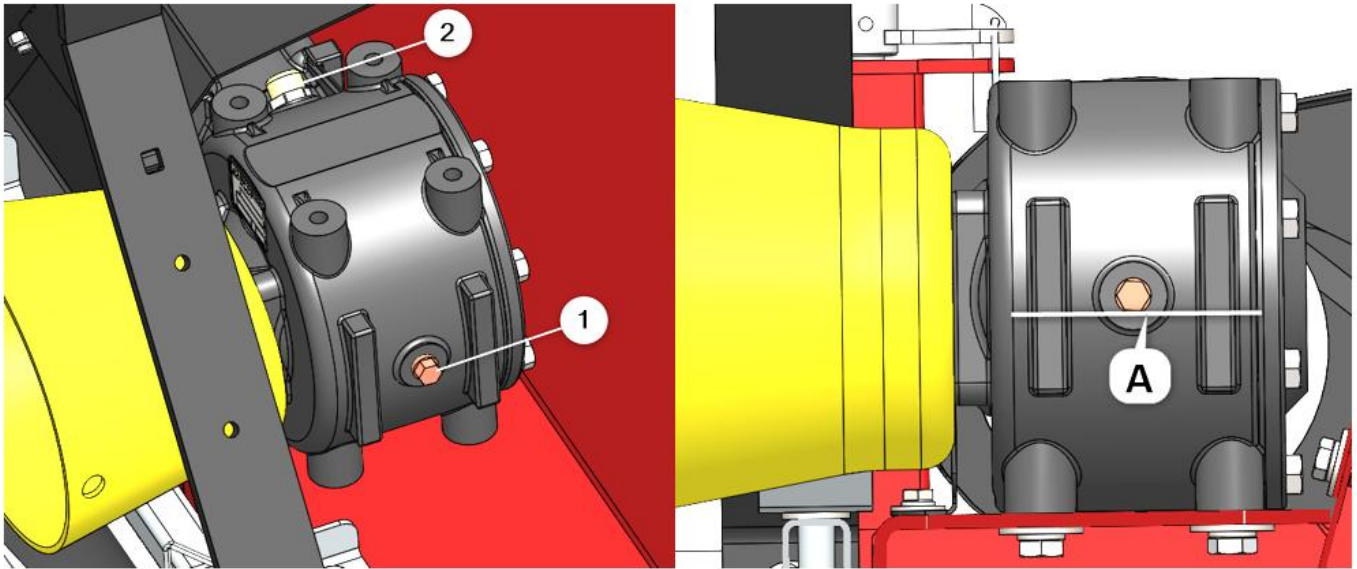

Fig. 18
From time to time, it is necessary to check the oil level or replace the oil. This is done according to the following procedures (Fig. 18):
2. Remove the breather (2), (*Fig. 18*).
5. Fill the gearbox with GL5 80W90 oil $\pm 1.1L$ (1.16 qts) through the breather hole (2).
6. Check the oil level by carefully removing the level plug (1).
7. When completed, install the level plug (1).
8. Install the breather (2).